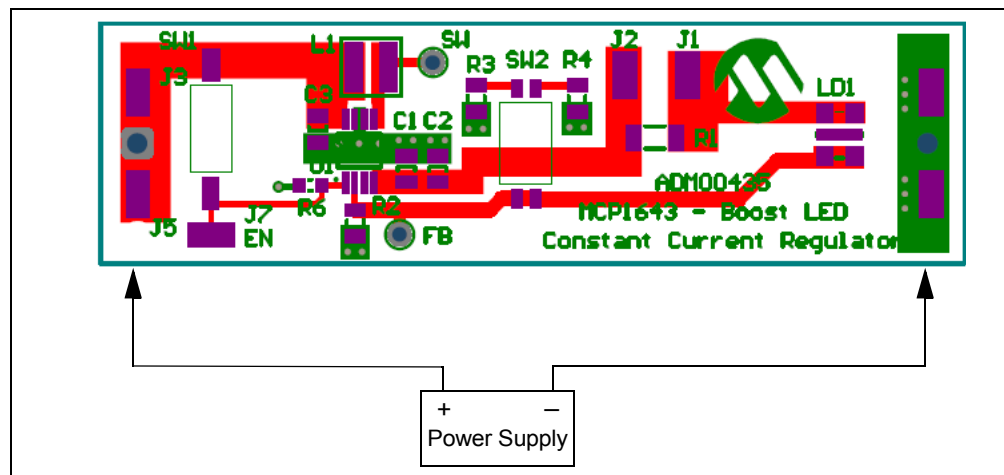

FIGURE 2-2: MCP1643 Synchronous Boost LED Constant Current Regulator Evaluation Board Setup.
1. Connect the input supply as shown in Figure 2-2 or connect an AA battery in the battery holder on the bottom of the board.